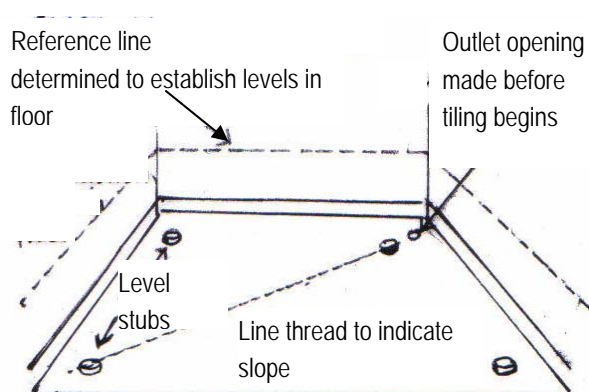

Fig 25 - **Elements in establishing slope in toilet floors**
- Made sure whenever slope in finished floors is required (e.g. toilet), points of level and outlets are correctly marked and outlet opening made before flooring is begun (See fig. 25)